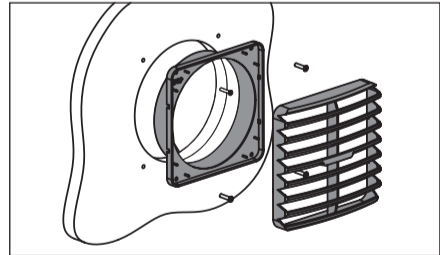

Fig. 23
3. Fix Grille base with four 6 G screws and snap fit the Grille louvres over the Grille base as shown in Fig. 23.